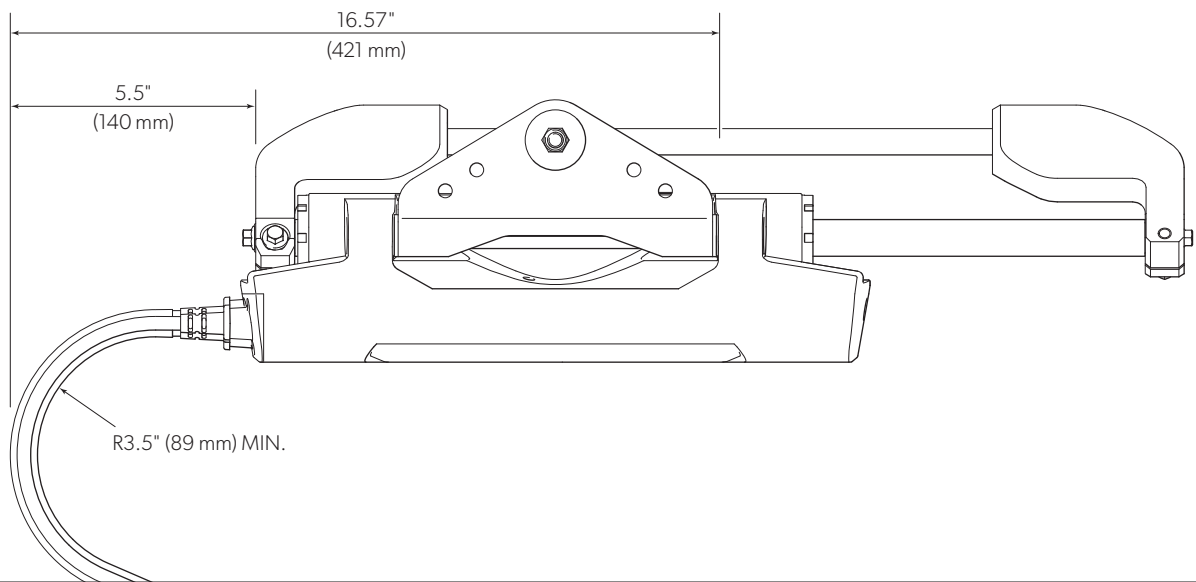
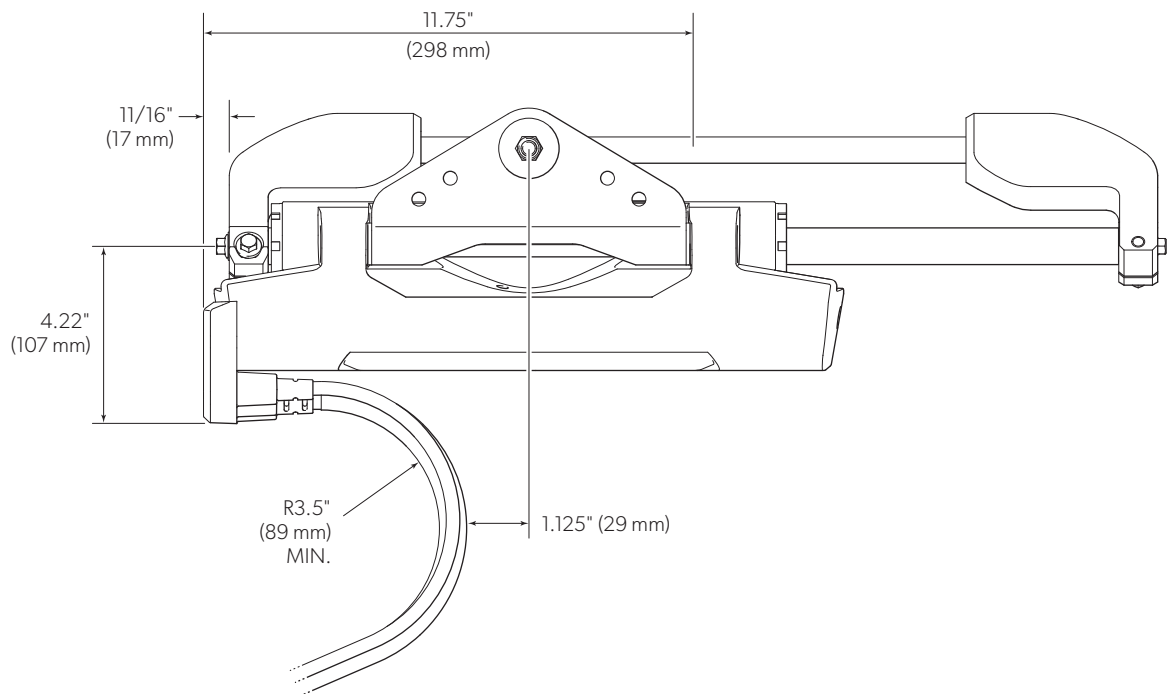

Figure 10-5. Minimum clearance for straight actuator harness.
Figure 10-6. Minimum clearance for 180° actuator harness.
- Two harness styles are available for the actuator in order to meet the minimum bend radius of the cables. The straight harness is for boats with tight clearance to the bottom of the splashwell and the 180° harness is for boats with tight clearance to the side of the splashwell. The splashwell clearance requirement for the two harness styles are shown in figure 10-5 and figure 10-6.